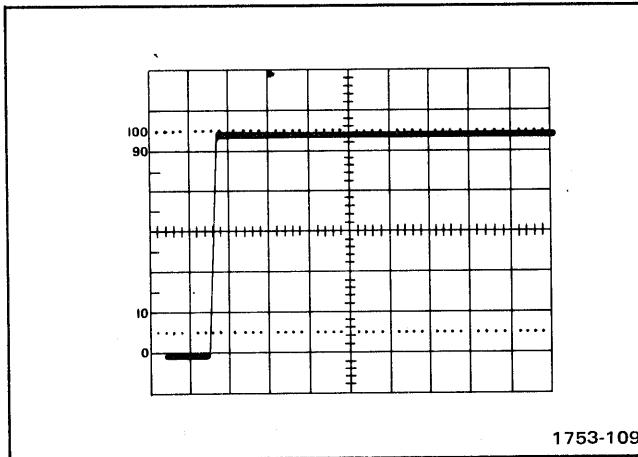

Figure Option 10-6. Typical display of transient response when high-frequency compensation is correctly adjusted.
- e. CHECK—that aberrations on the positive-going step are within 3% (± 0.15 division). See Figure Option 10-6 for typical display.